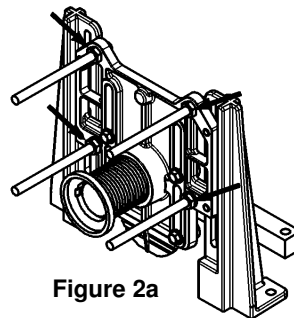
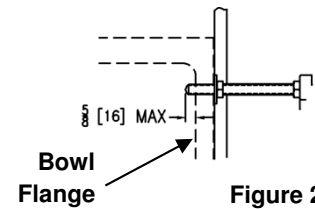

Figure 2a
Figure 2b
2. Prep for finished wall. Install the (4) threaded rods into the front of the faceplate (see **Figure 2a**) until each rod extends 5/8" past the closet bowl flange (see **Figure 2b**). Use (4) Jam Nuts from the 66955-332-9 hardware bag to lock the threaded rods in place. See **Figure 2a**.